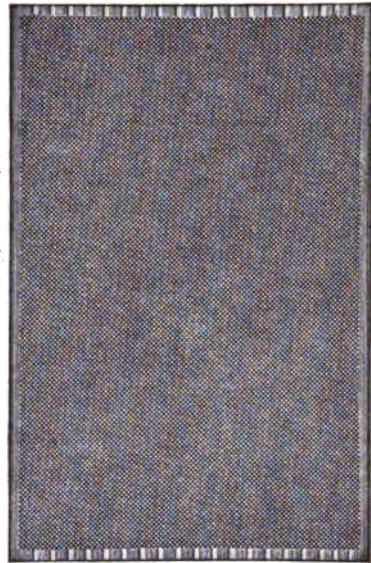

Fig. 394. Wood and Rubber Separator
*Reassembling Battery.* Wash all the sediment out of the jars, also wash and save the rubber sheets, unless they happen to be broken, but throw away the old wood separators. The rubber sheets should be placed in clean running water for about a quarter of an hour. Reassemble the positive and negative groups with the plates on edge in order to insert the separators. Place a rubber separator against the grooved side of a wood separator, Fig. 394, and insert a positive plate near the center of the element. The rubber sheet must be against the positive plate, and the wood separator against the negative plate. In this manner insert separators in all the spaces, working in both directions from the center. Care must be taken *not to omit a separator as that would short-circuit the cell.*